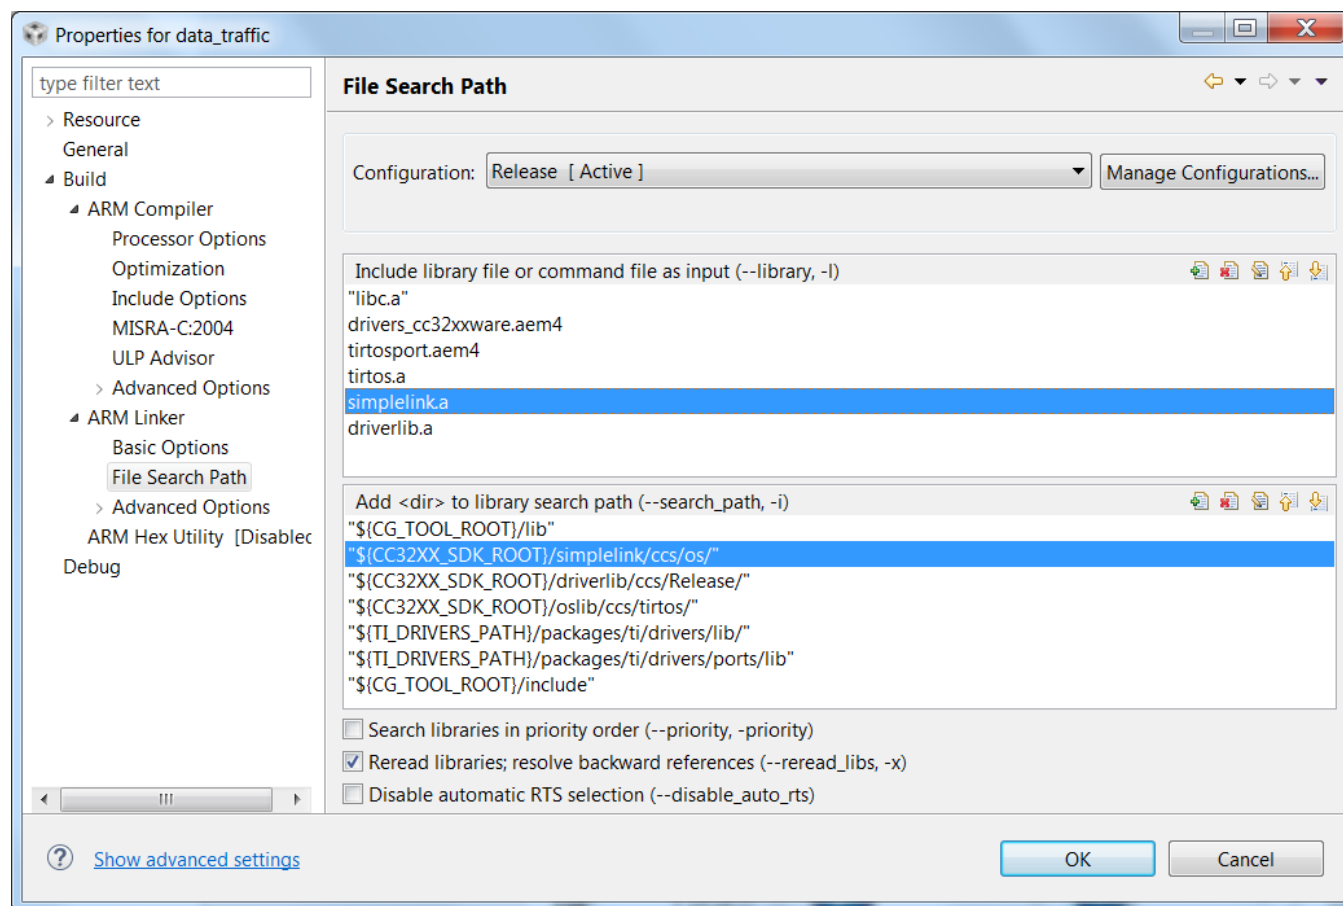
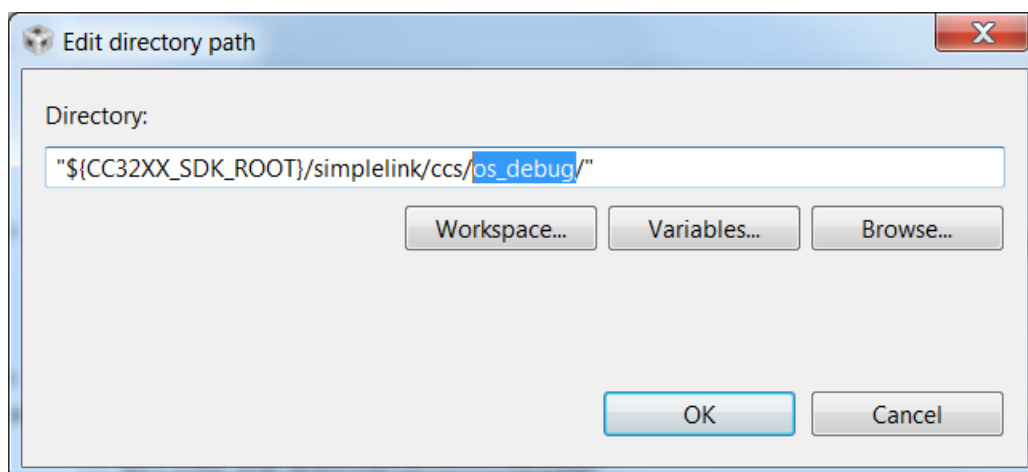

Figure 3-5. Relinking SimpleLink™ Library (CCS) (1 of 2)
Figure 3-6. Relinking SimpleLink™ Library (CCS) (2 of 2)
3. Edit the SimpleLink library path, as shown in Figure 3-5 and Figure 3-6.